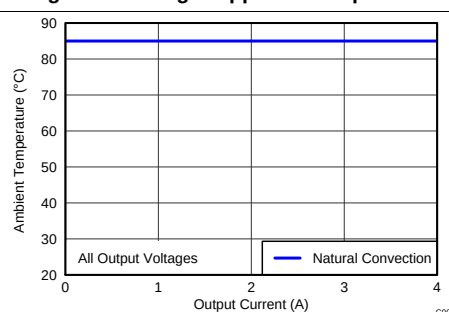

Figure 4. Safe Operating Area
- (9) The temperature derating curves represent the conditions at which internal components are at or below the manufacturer's maximum operating temperatures. Derating limits apply to devices soldered directly to a 100 mm $\times$ 100 mm double-sided PCB with 1 oz. copper. Applies to Figure 4.